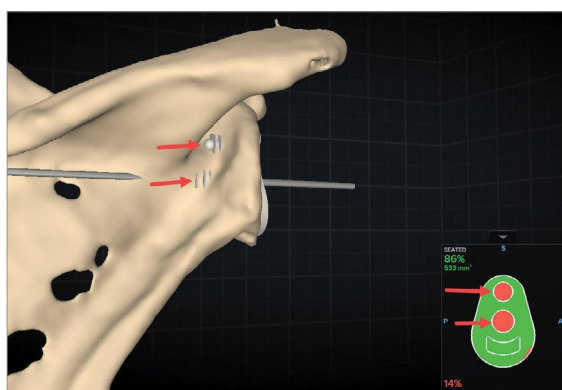

Figure 25. Implant perforation in Backside Seating feature
Implant Perforation (Figure 25)
- This feature within the backside seating heat map will show areas where the implant perforates the glenoid medially as shown in Figure 25.